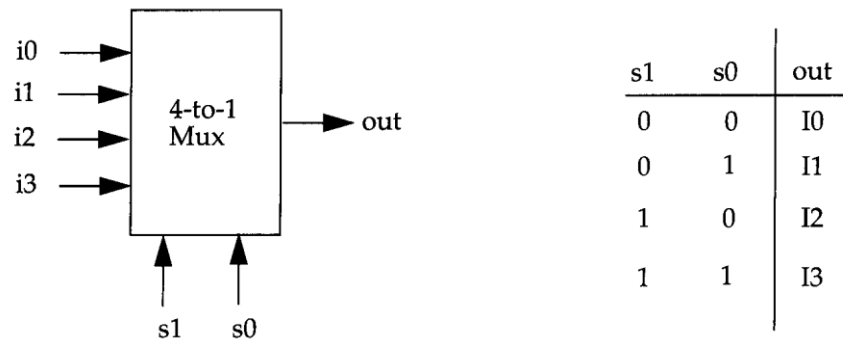

Fig.3.4: 4:1 Multiplexer
- 4:1 multiplexer has 4 input signals, 2 select signals and 1 output signal as shown in fig.3.4.